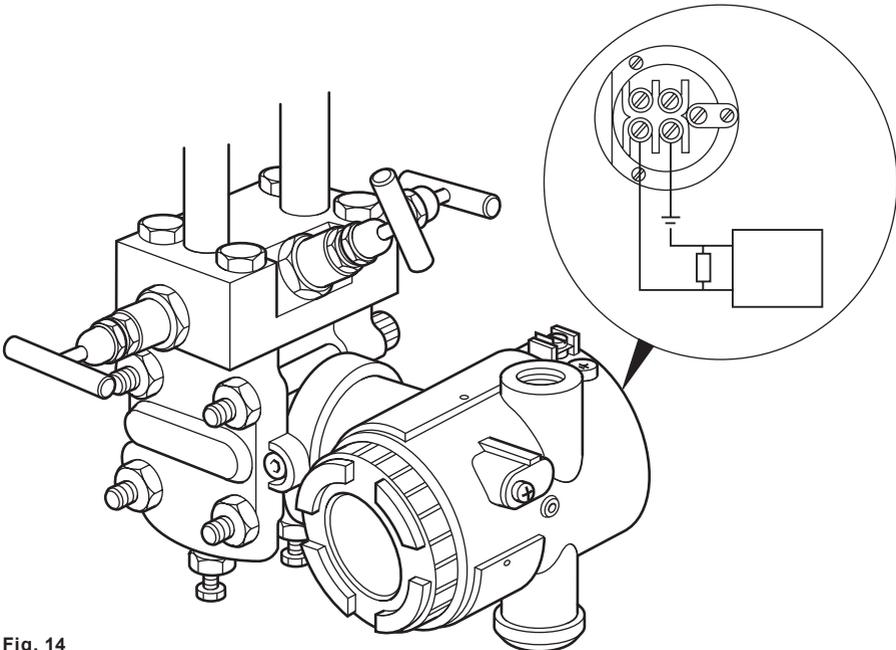
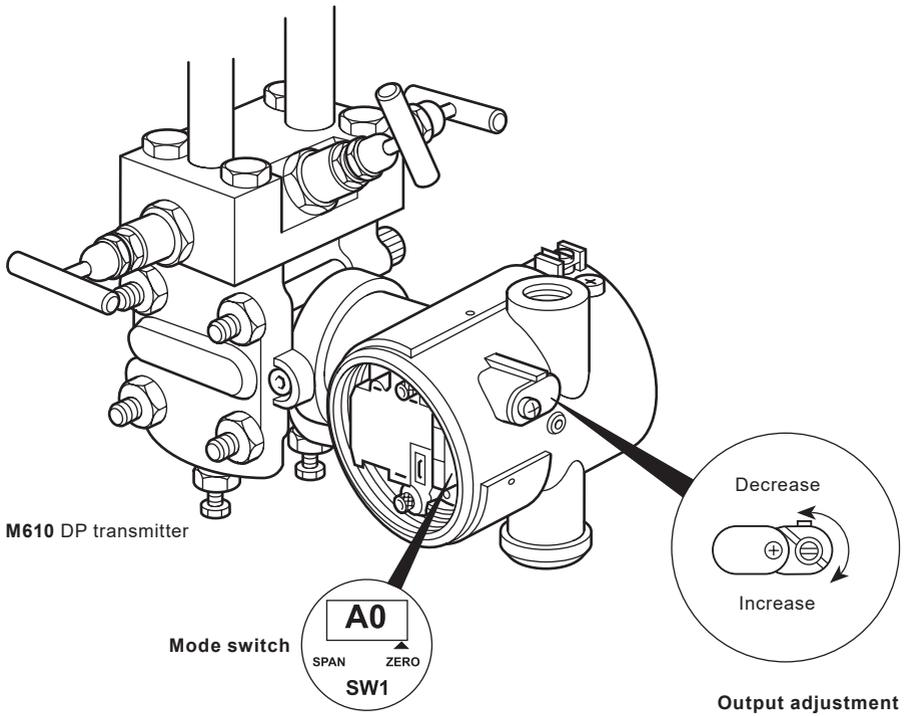

Fig. 14
Fig. 15
- 7.2.4 Using a suitable milliammeter, check that the output of the DP transmitter is 4.00 mA across terminals CK+ and CK- as shown in Figure 14. (If a flow display is being used, it should read zero.) Set the mode switch (SW1) to the zero position and using the output adjuster on the M610 DP transmitter, adjust the zero output until a value of exactly 4.00 mA is achieved. See Figure 15.